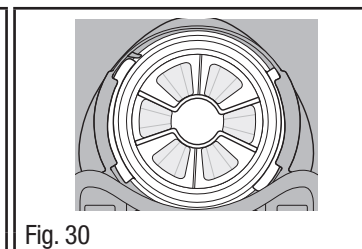

Fig. 30
7. The speaking diaphragm will stop turning when the stop guards engage. The wings should now be horizontal (Fig. 30).